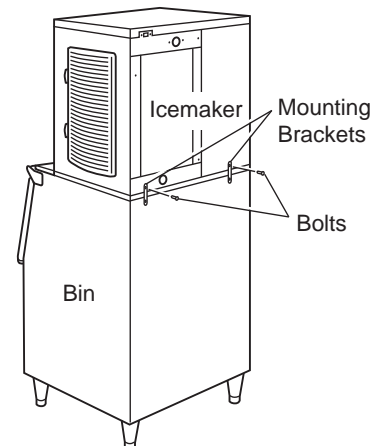

Fig. 2b
- 6a) **Ice Storage Bin:** Follow the ice storage bin, adapter kit, or top kit instructions for securing the icemaker. If no instructions are available, secure the icemaker using the 2 mounting brackets and the bolts provided. See Fig. 2b.